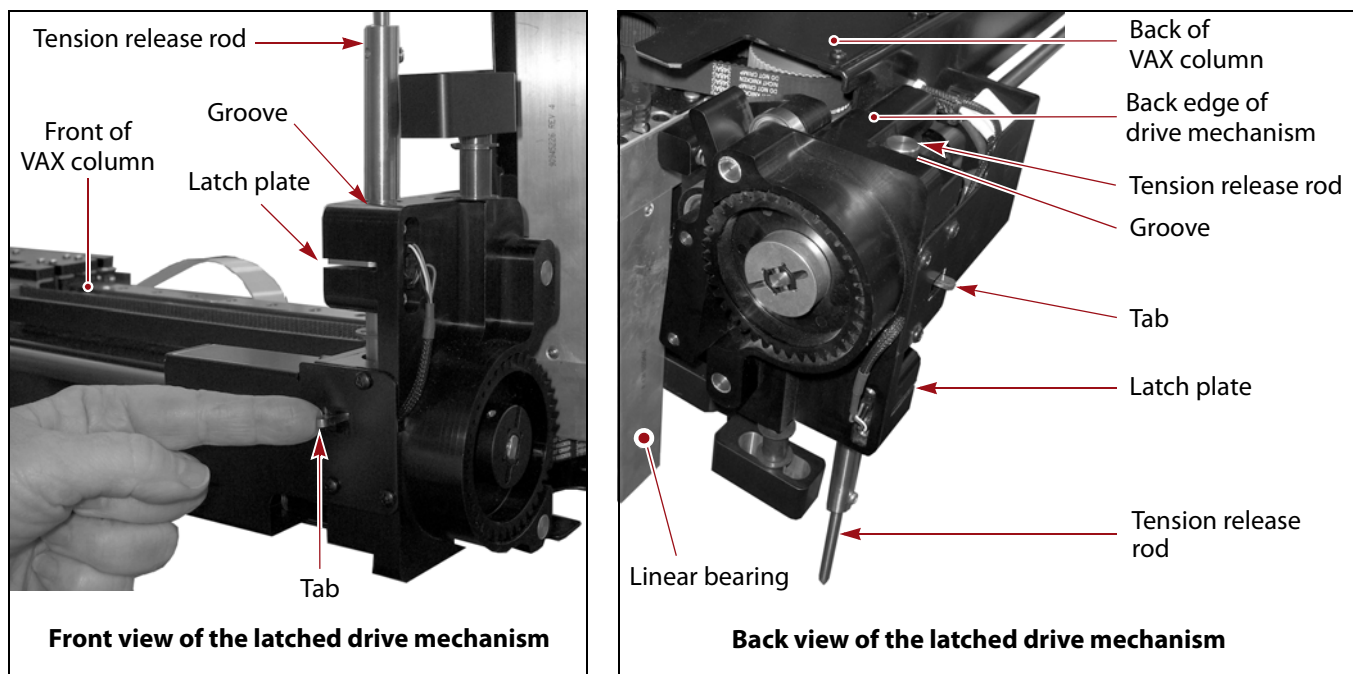

Figure 24 Confirm that the drive mechanism is latched (bottom drive mechanism shown).
5. Examine the top and bottom drive mechanisms to confirm that they are latched closed (see Figure 24 on page 27).